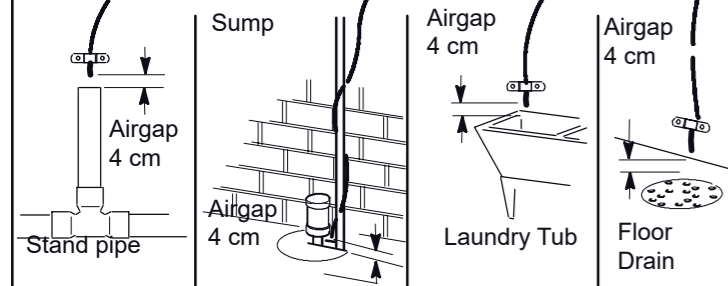

FIG. 9
Route the drain tubing to an existing drain in the house. A floor drain, laundry tub, standpipe, sump, etc. are suitable drain points. See Fig. 9. This type of drain is the preferred over the p-trap drain adapter.
4. Route the tubing to the drain point and secure at the end with a bracket (not included). See Fig. 9. Provide a 4 cm air gap between the end of the tube and the drain. See Fig. 9.